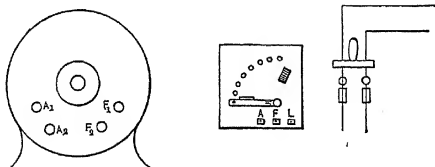

FIG. 221. Shunt motor, starting box and line.
**Prob. 16-9.** Connect the shunt motor, Fig. 221, to the line through the starting box.